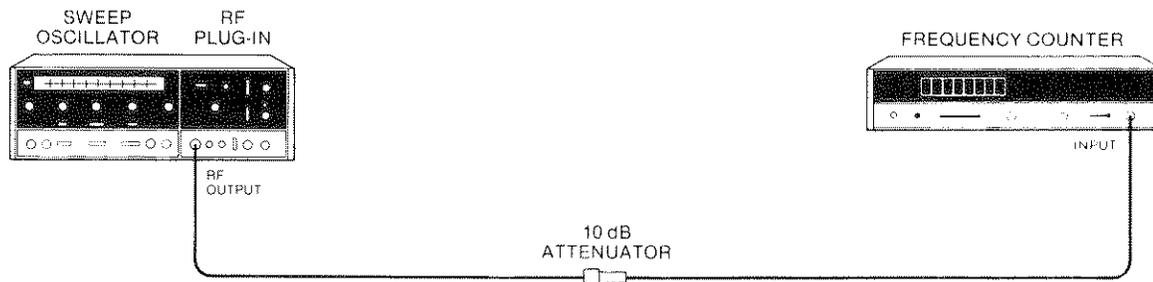

Figure 2-3. Frequency Range and Accuracy Test Setup
- a. Connect equipment as shown in Figure 2-3. Connect frequency counter through a 10 dB attenuator to the 86222A/B RF OUTPUT connector. Press 8620C LINE switch to the ON position.